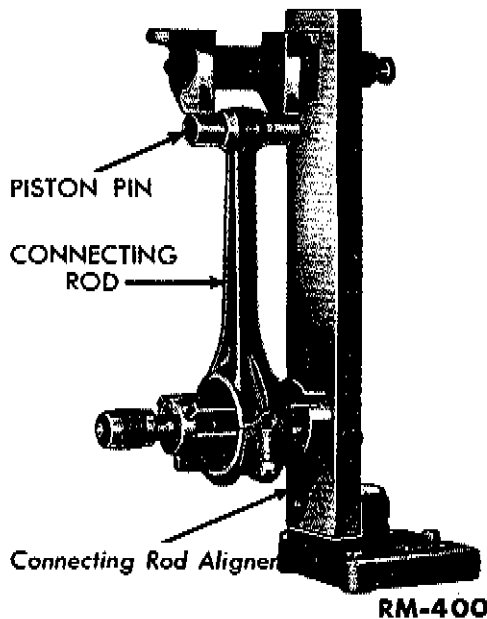

Fig. 20—Checking Connecting Rod for Bend
(3) **CONNECTING RODS.** Replace connecting rods which have damaged studs. To check the piston pin bushing for wear, use a new piston pin as a gauge. If any looseness is felt, rebush the connecting rod (par. c below), or fit an oversize piston pin in both the connecting rod and the piston (par. b below). Check the connecting rods for being twisted. Bent or twisted connecting rods must be aligned (figs. 20 and 21). Where possible, use the original connecting rod for each cylinder. If any of the old rods are used in a different cylinder, file off the old number. Number each rod and cap as follows: Use $\frac{3}{16}$ -inch steel stamps for numbering the connecting rods, placing the new number in the same position as
c. **Connecting Rod Bushing Replacement.** Drive the bushing from the connecting rod with a suitable driver. Press a new bushing into the connecting rod. Drill the four oil holes in the bushing to the same size as the holes in the connecting rod. Ream and burnish or hone the bushing to 0.7505 inch. Check the alignment of the connecting rod, correcting any misalignment (figs. 20 and 21).